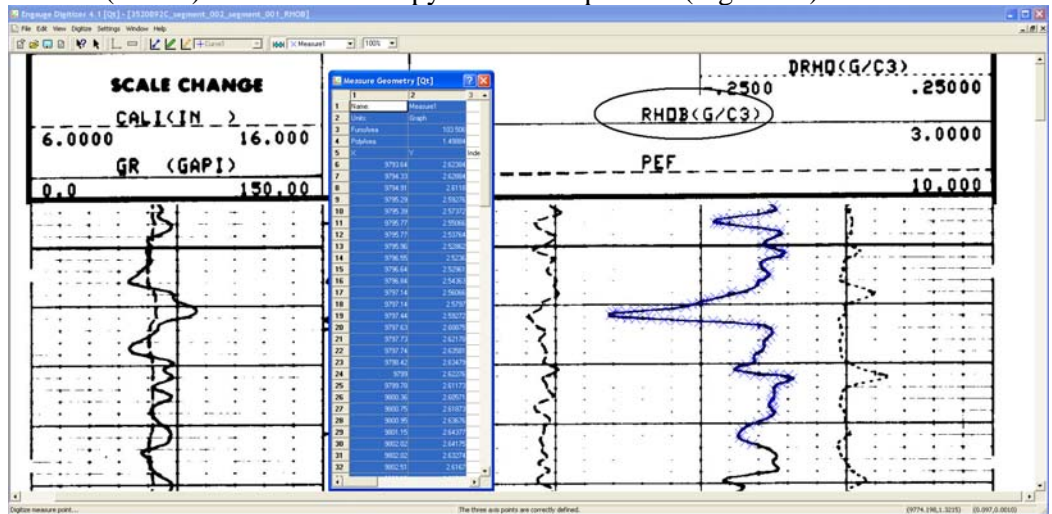

Figure 13, Select the columns and Copy the data
- c. Output the data points. Select the first two columns, and Press both Ctrl and c buttons (Ctrl+c) at the same to copy them to Clipboard. (Figure 13)